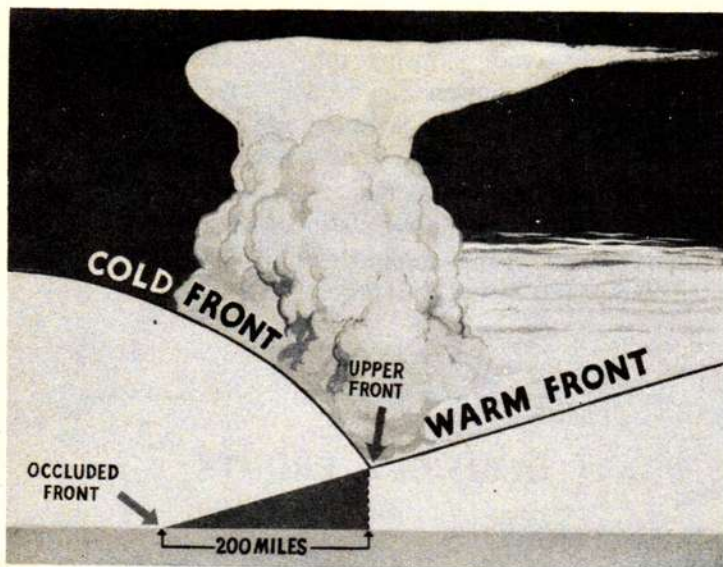
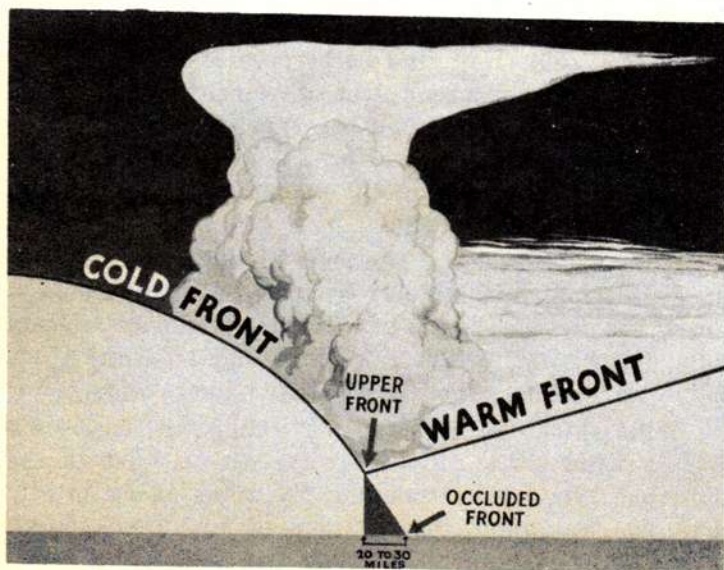
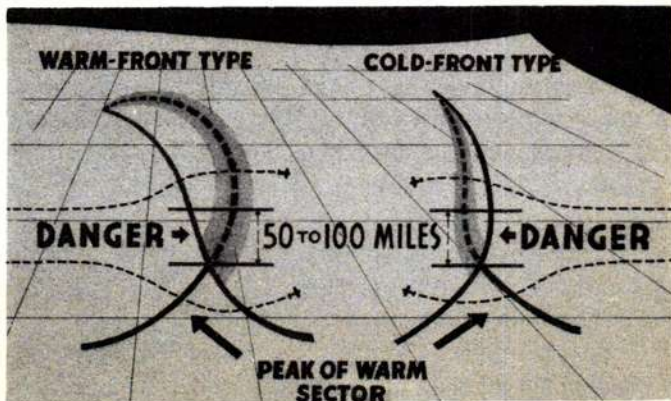

Figure 4-7-1. Warm-front type occlusion.
Figure 4-7-2. Cold-front type occlusion.
Figure 4-7-3. Dangerous areas in both types of occluded fronts. Avoid them!
**Common to both types.** Whether the occlusion is the warm-front type (fig 4-7-1) or the cold-front type (fig 4-7-2), the weather of the upper-front is nearly always typical of a cold front, and both types of occlusions are preceded by a widespread area of warm-front weather. Along the upper front of either type occlusion; the activity is particularly severe for a distance of 50 to 100 miles north of the peak of the warm sector (fig 4-7-3). This area must be avoided.
**Primary difference.** The primary difference between the warm-front and the cold-front occlusion is the location of the occluded front (the surface front) in relation to the upper front, as illustrated in figures 4-7-1 and 4-7-2. In the warm-front type, the weather band is wider.
Whenever you plan a flight through an area of weather brought about by an occluded front, avoid the dangerous zone which extends 50 to 100 miles north of the peak of the warm sector. Choose a flight path that will take you at least 100 miles away from this zone (fig 4-7-3). Because it is difficult for the aerologist to locate this peak accurately, never choose a flight path closer than 100 miles. Protect yourself by allowing a safe margin.